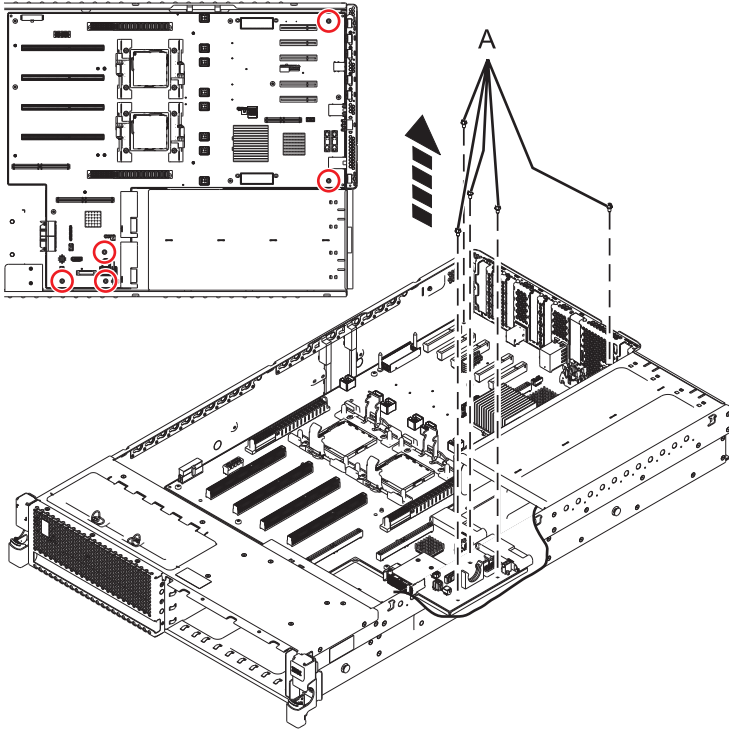

Figure 8. Removing the system backplane)
- a. Remove the screws (A). See Figure 8 on page 12.